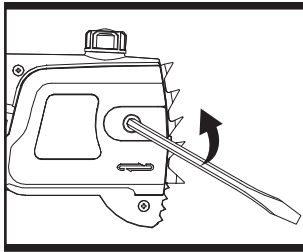

Fig. 1
- b). Set the pole pruner on a suitable flat surface with the cover facing upwards. Unscrew in counter-clockwise direction the hex screw with Allen key (supplied) and then remove the side cover and cover insert. (See Fig.1)